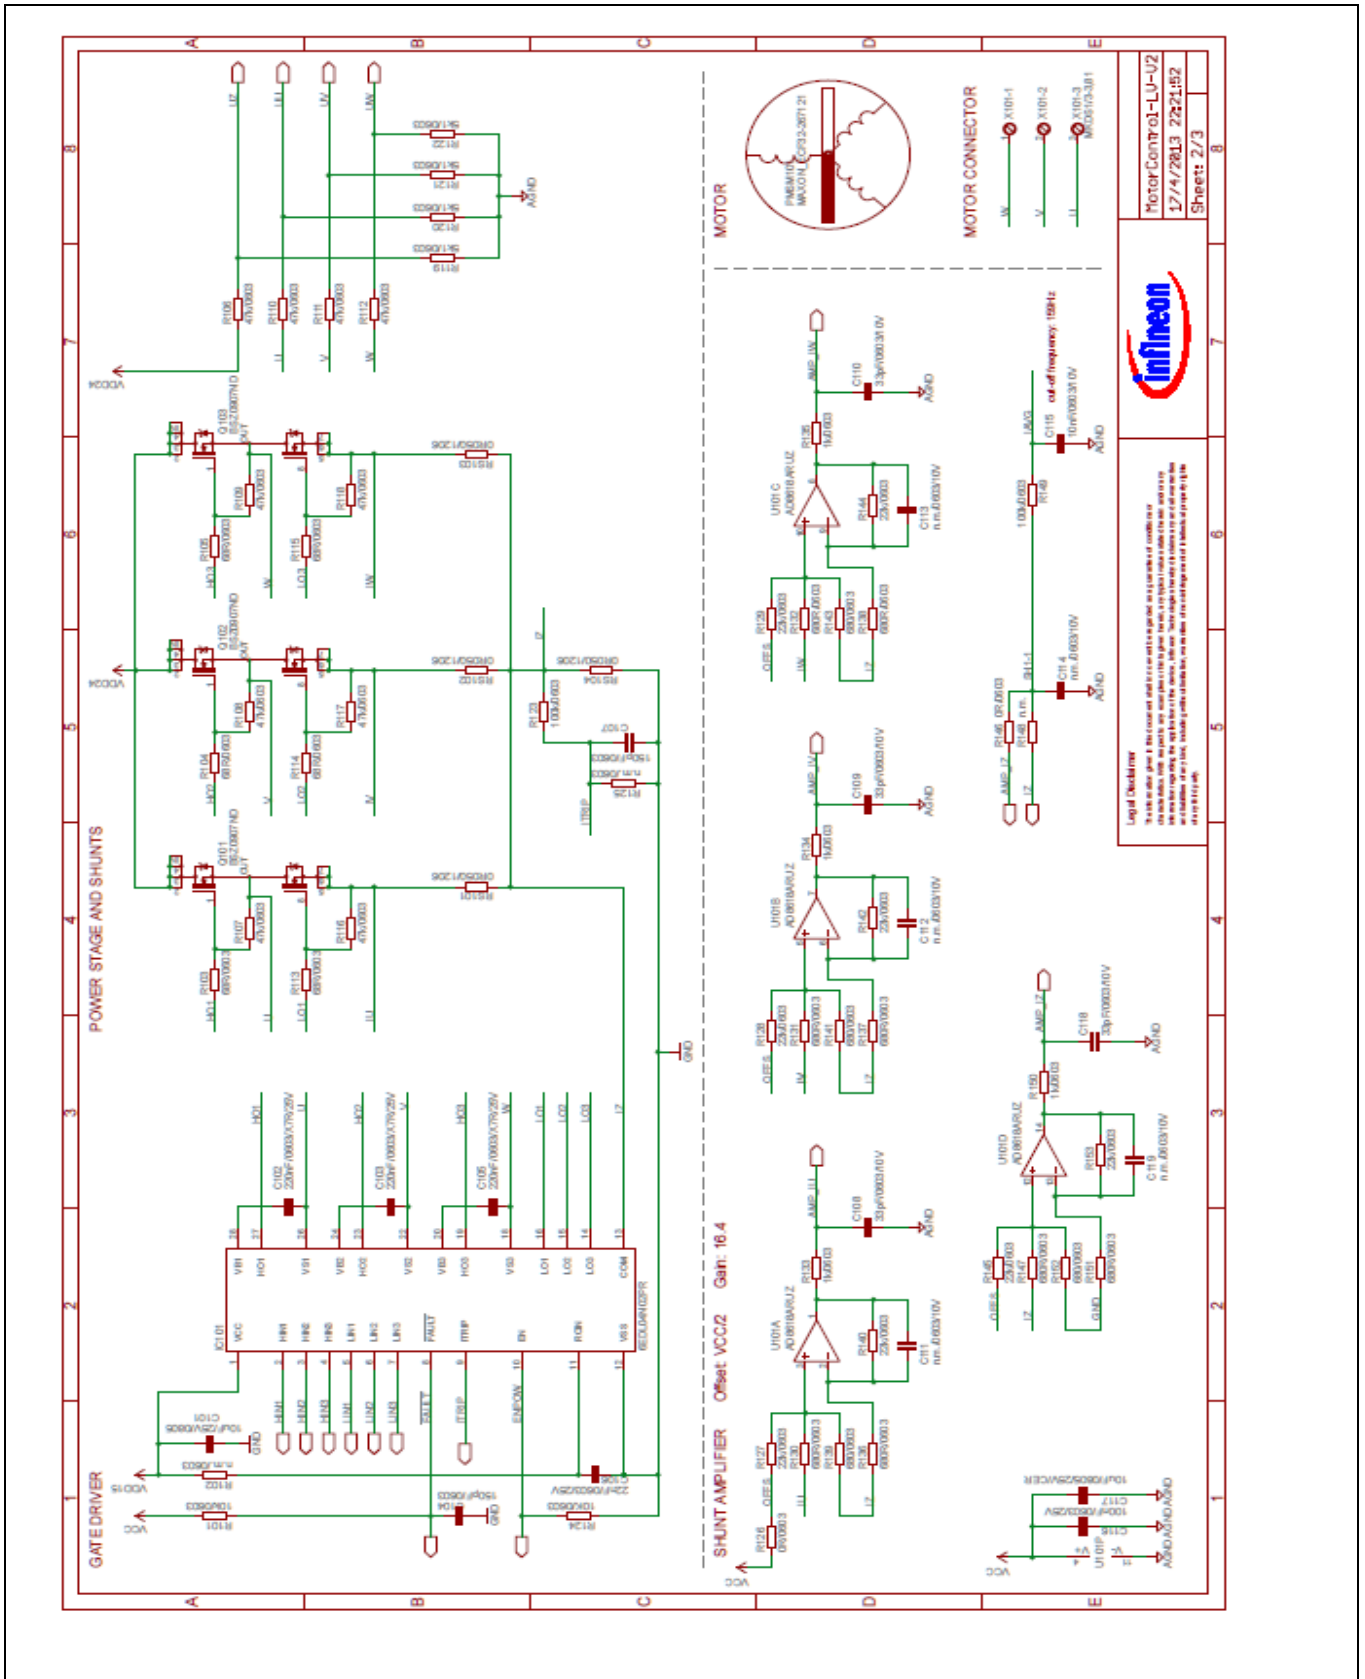

Figure 15 Schematic of Gate Driver, Power Stage, Shunt Amplifier, Motor Connector
- Figure 15: Gate Driver, Power Stage, Shunt Amplifier, Motor Connector